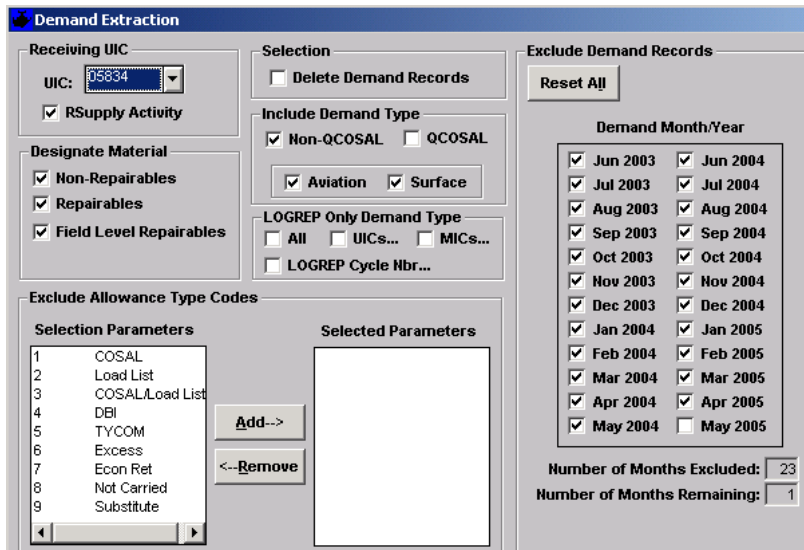

Figure 5.10
5.3.1 The **Demand Extraction** window (Figure 5.10) is used to create a demand file (X21 format) for your own activity or another SNAP I/Force RSupply activity.